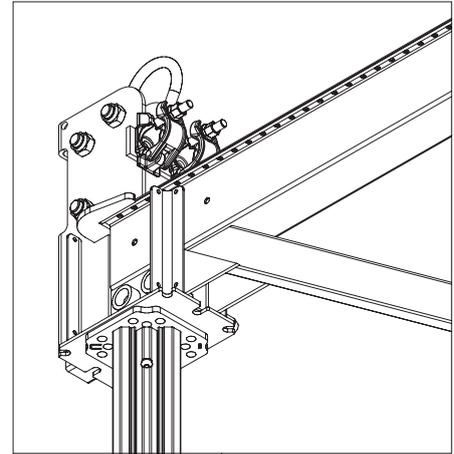

Fig. A7.03
For providing the SKYDECK table stability against overturning during mounting of the rollers, an additional MP prop (17) is attached. (Fig. A7.03 - 04)